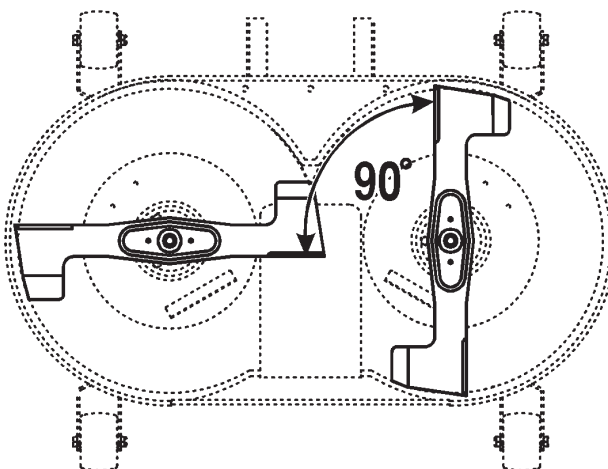

Figure 38
2. Position the blades 90 degrees to each other (Fig. 38).